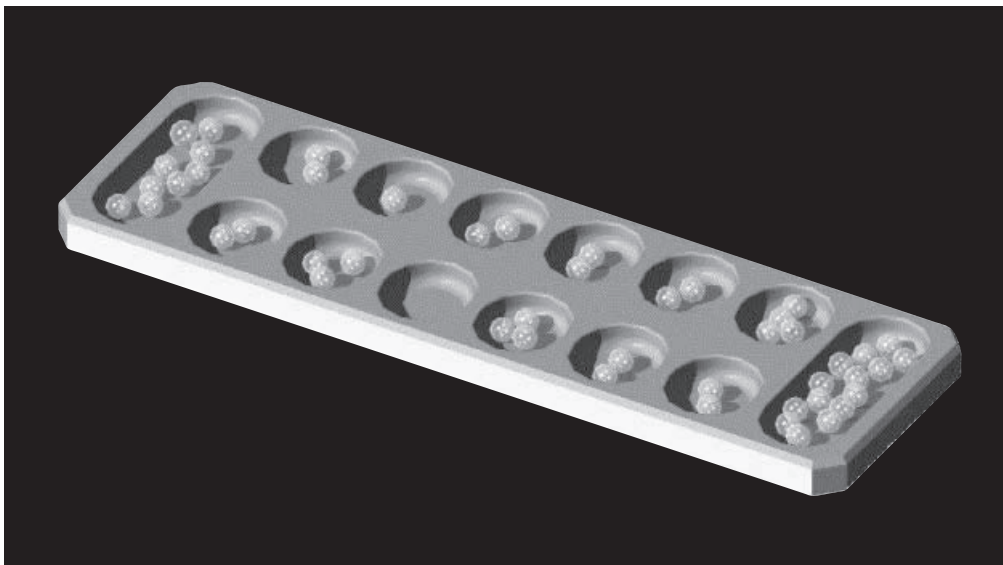

Fig. AV3-1
*Mancala* is an ancient bean game originating in Africa. It can be played with beans, pebbles, marbles, or any other small objects, which are placed into holes (pockets) dug into the ground or routed out of a board, as shown in Fig. AV3-1.
Create a solid model of the board from Part 1. Render the board using different materials such as wood, marble, and brass. Add beans, marbles, or other playing pieces (marbles are shown in Fig. AV3-1) and assign appropriate materials to them also. Be sure to create and position lights so that the board is visible and attractive when you render it. (Remember that you will need to render using either the **High** or **Presentation** render quality to display the materials correctly.)